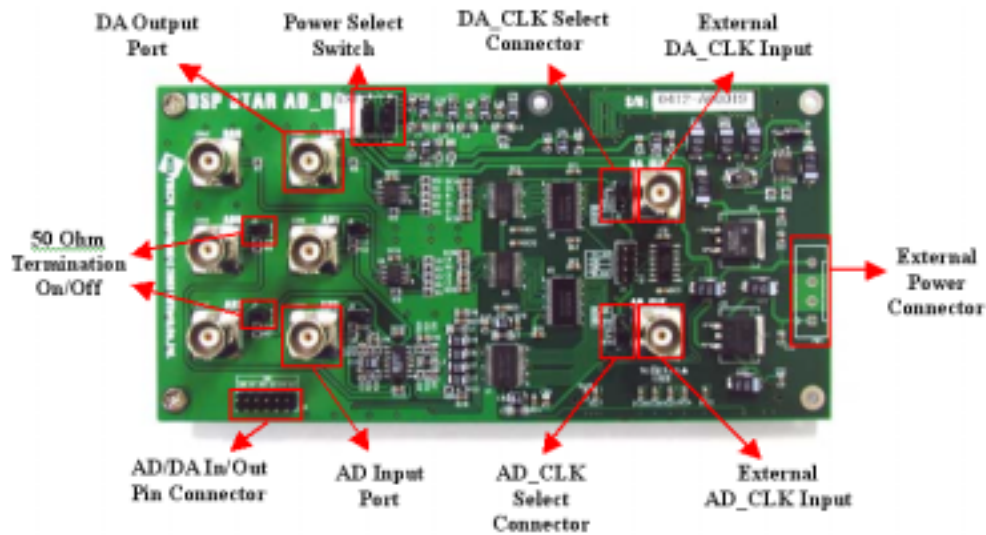

Figure 3. DSP STAR AD/DA Module
The DSP STAR AD/DA Module is a high speed Analog-to-Digital and Digital-to-Analog conversion hardware board which can be used as an add-on module to DSP STAR Kit through the expansion connector. Since expansion connection complies to Texas Instrument (TI) Compliant Expansion Connection, TI C6xEVM or TI C6x Starter Kit can also be used with DSP STAR AD/DA module. The module houses four input analog channels of 1.5M 12-bit A/D conversion and two output analog channels of 165M 12-bit D/A conversion. Figure 3 show a real image of AD/DA module and Table 1 shows the key features.